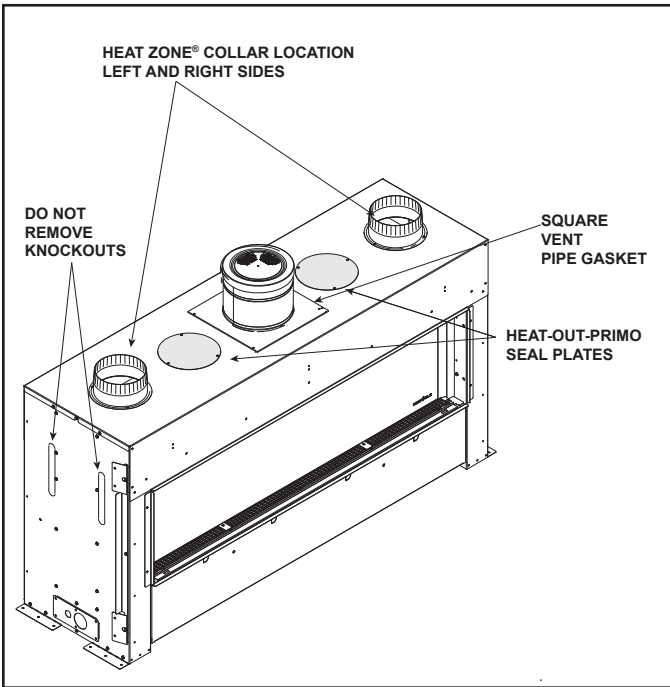

Figure 6.7 HEAT-ZONE-PRIMO
- Install the HEAT-ZONE-PRIMO collars on the left and right sides of the appliance with screws. See Figure 6.7.